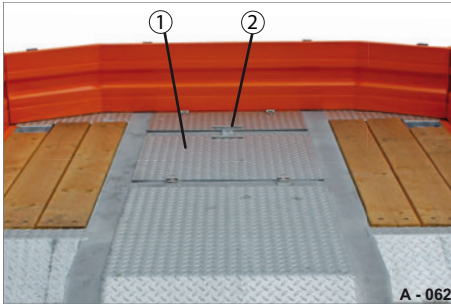

Fig. 68 Storage compartment closed
- Hold the lid (Fig. 68/1) tightly with the handle (Fig. 68/2) and carefully let it down.